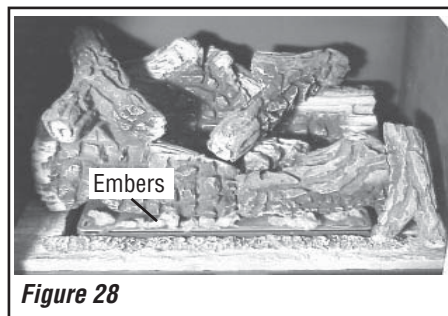

Figure 28
9. Place the glowing embers on the burner as shown in Figures 28 & 29.
IMPORTANT: The quantity and placement of the ember material can affect stove performance therefore it is very important that it be placed as shown in Figures 28 & 29.